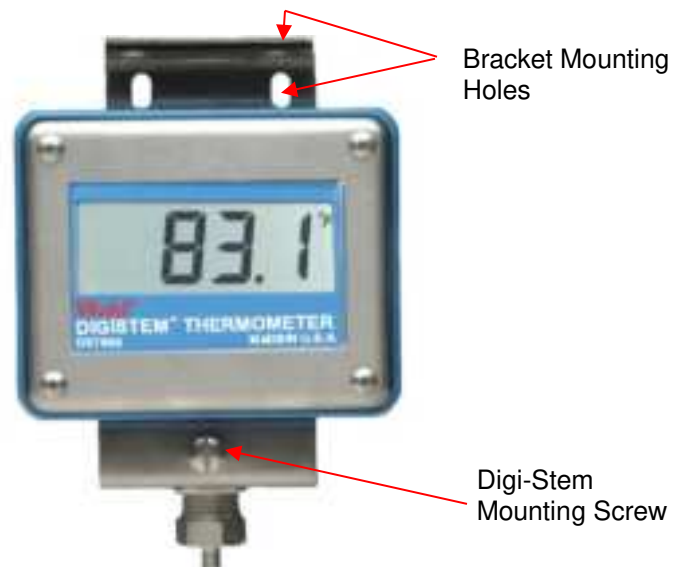

Fig. 1
2.2.2. Mount the bracket with the Digi-Stem mounting screw towards the bottom (Fig. 1). The Digi-Stem's coupling nut should be inserted from the top, with the display facing out and secured with the Digi-Stem mounting screw.